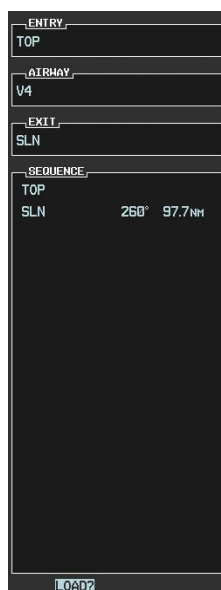

Figure 5-107 Ready to Load V4
- j) Press the **ENT** Key. The selected airway and exit are displayed, and the prompt "LOAD?" highlighted as in Figure 5-107.